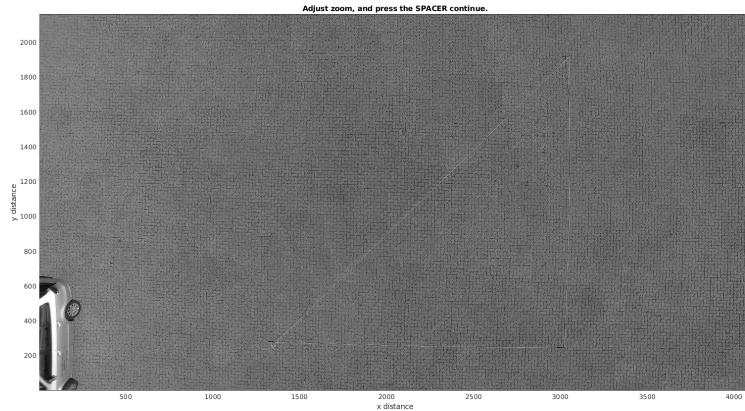

Figure 3.10: Frame from 10 meter right triangle at 15 meters height.
1. Record a known size object , with the Drone camera in nadir position (90 degrees). In the figure 3.10, a 10 meters right triangle is displayed, recorded at 15 meters height.